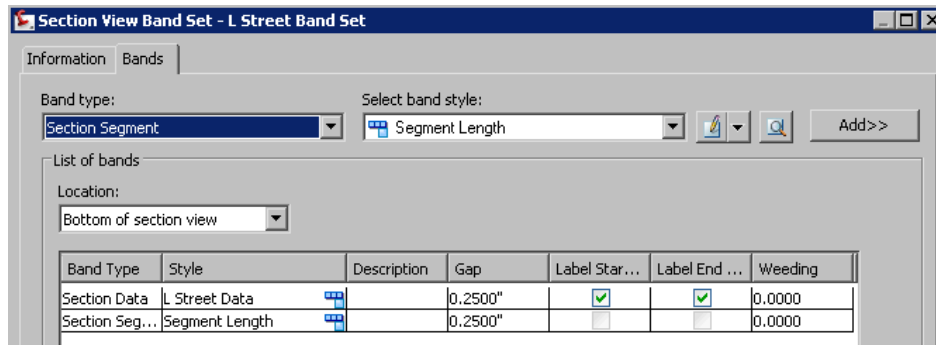

Figure 9-44 Partial view of the **Bands** tab
8. Similarly, select **Section Segment** and **Segment Length** from the corresponding **Band type** and **Select band style** drop-down lists and then add them to the **List of bands** area, as shown in Figure 9-44.